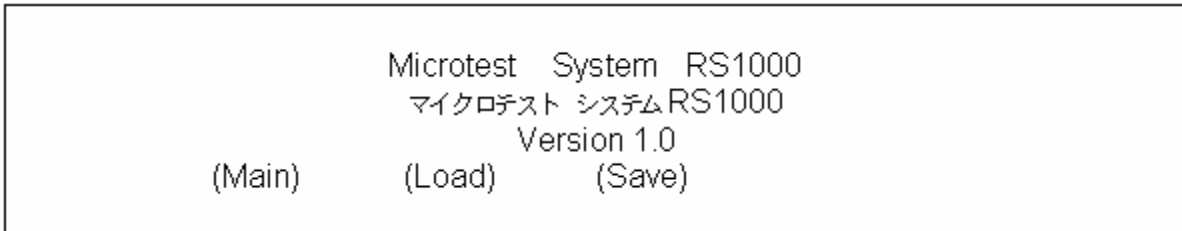

Fig. 27
Step 1: Turn **ON** the RS800 tester and connect USB cable to tester. Then, connect the other end of USB cable to the operating PC. The tester **MUST** be in the start-up screen as shown: (Fig. 27)